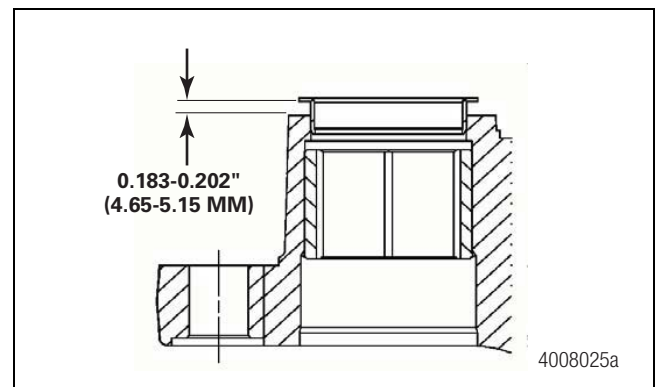

Figure 5.42
3. Use the applicable parts of Meritor tool MST 1000 to draw the retainer into the slide pin bore until the flat face of the retainer is 0.183-0.202-inch (4.65-5.15 mm) from the end of the slide pin bore. Figure 5.42.